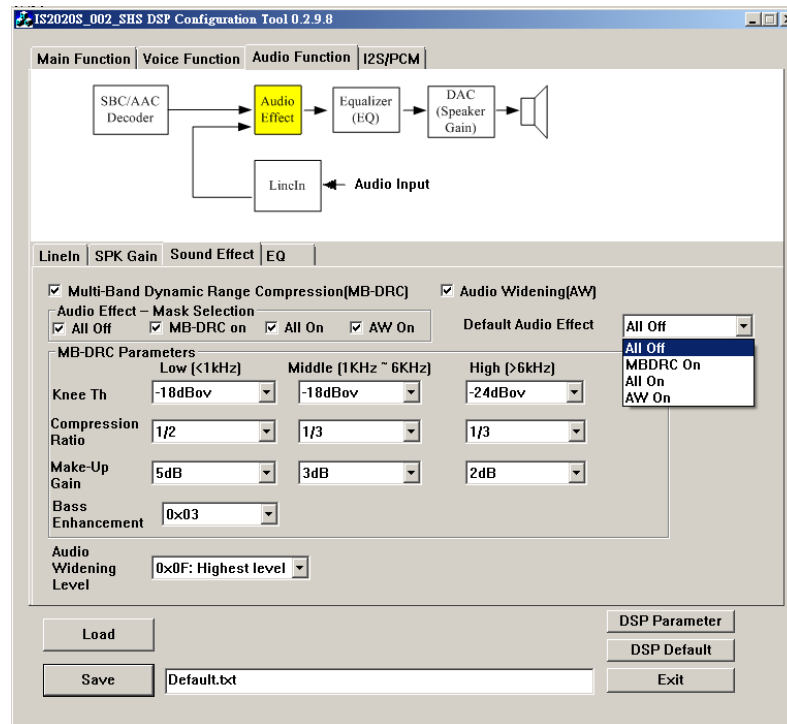

Figure 14: User interface for sound effect configurations.
Figure 14 shows adjustable parameters for AW and MB-DRC. Checkboxes for MB-DRC and AW should be checked if one wants to enable these functions.
case given in Figure 14, “All off”, “MB-DRC On” and “All On” are selected. When one presses the “Next” button, the audio effect switches from one to its next. The order of selected audio effect is “All off”→“MB-DRC On”→ “All On”→ “All off”.
Step 4: This is an optional step. The purpose of this step is to shape the frequency response of the speaker output by lowering the low frequency (<1 kHz) and enhancing the high frequency parts (1 kHz to 3 kHz). By doing so, the echo reverberation within the speakerphone/ car kit housing can be reduced such that the linearity of the echo coupled to the MIC input can be better. The echo linearity is highly associated with the AEC performance. An example is given in Figure 14; these settings can be obtained empirically. However, the required frequency shaping may vary in terms of what the speaker and the housing is selected.
2. *Adjust the frequency shaping shown in Figure 14:* If the speaker output level is very loud and echo-to-speech ratio at the MIC input is too high, one way to improve this is to further suppress the low-frequency part of the speaker output. As a result, the echo-to-speech ratio at the low frequency parts of the MIC input is further reduced and could have better double-talk performance.
4. *Allow only one channel output(Assuming for the stereo speakerphone case):* If the distance between the MIC and one of the speaker channels are very close (<4cm), the AEC tuning for the full-duplexity becomes very difficult. One simple way is to turn off the closer speaker channel output and only allow the other speaker to output such that the full-duplexity can be much easier to be achieved. The User Interface (UI) can configure the number of the desired speaker channel outputs.